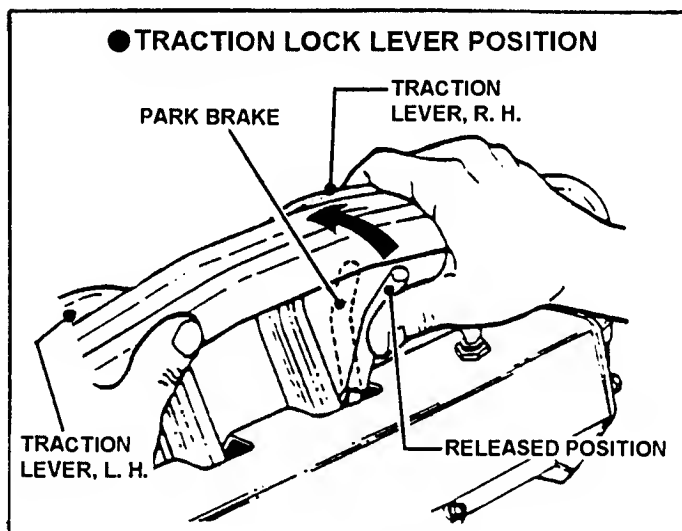

FIGURE 16
When Traction Lock Lever is placed in **PARK** position, both Traction Wheel Drives are disengaged and wheel brakes are set, allowing the operator to **PARK THE MOWER ON LEVEL GROUND OR WHEN TRANSPORTED IN TRUCK OR TRAILER.** See Figures 16 & 17.
3. To release Traction Lock, squeeze both Traction Levers firmly against the handlebar allowing Traction Lock to release. Simultaneously move both Traction Levers slowly forward, allowing machine to start forward movement. See Figure 16.